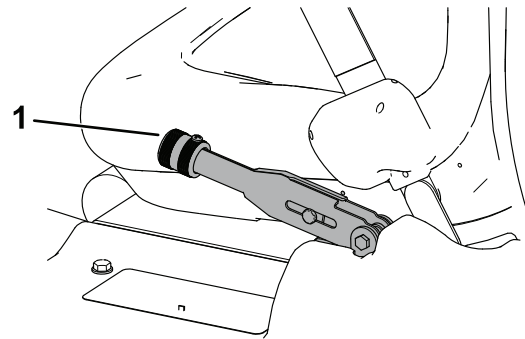

Figure 50
2. Loosen the set screw securing the knob to the parking-brake lever (Figure 50).